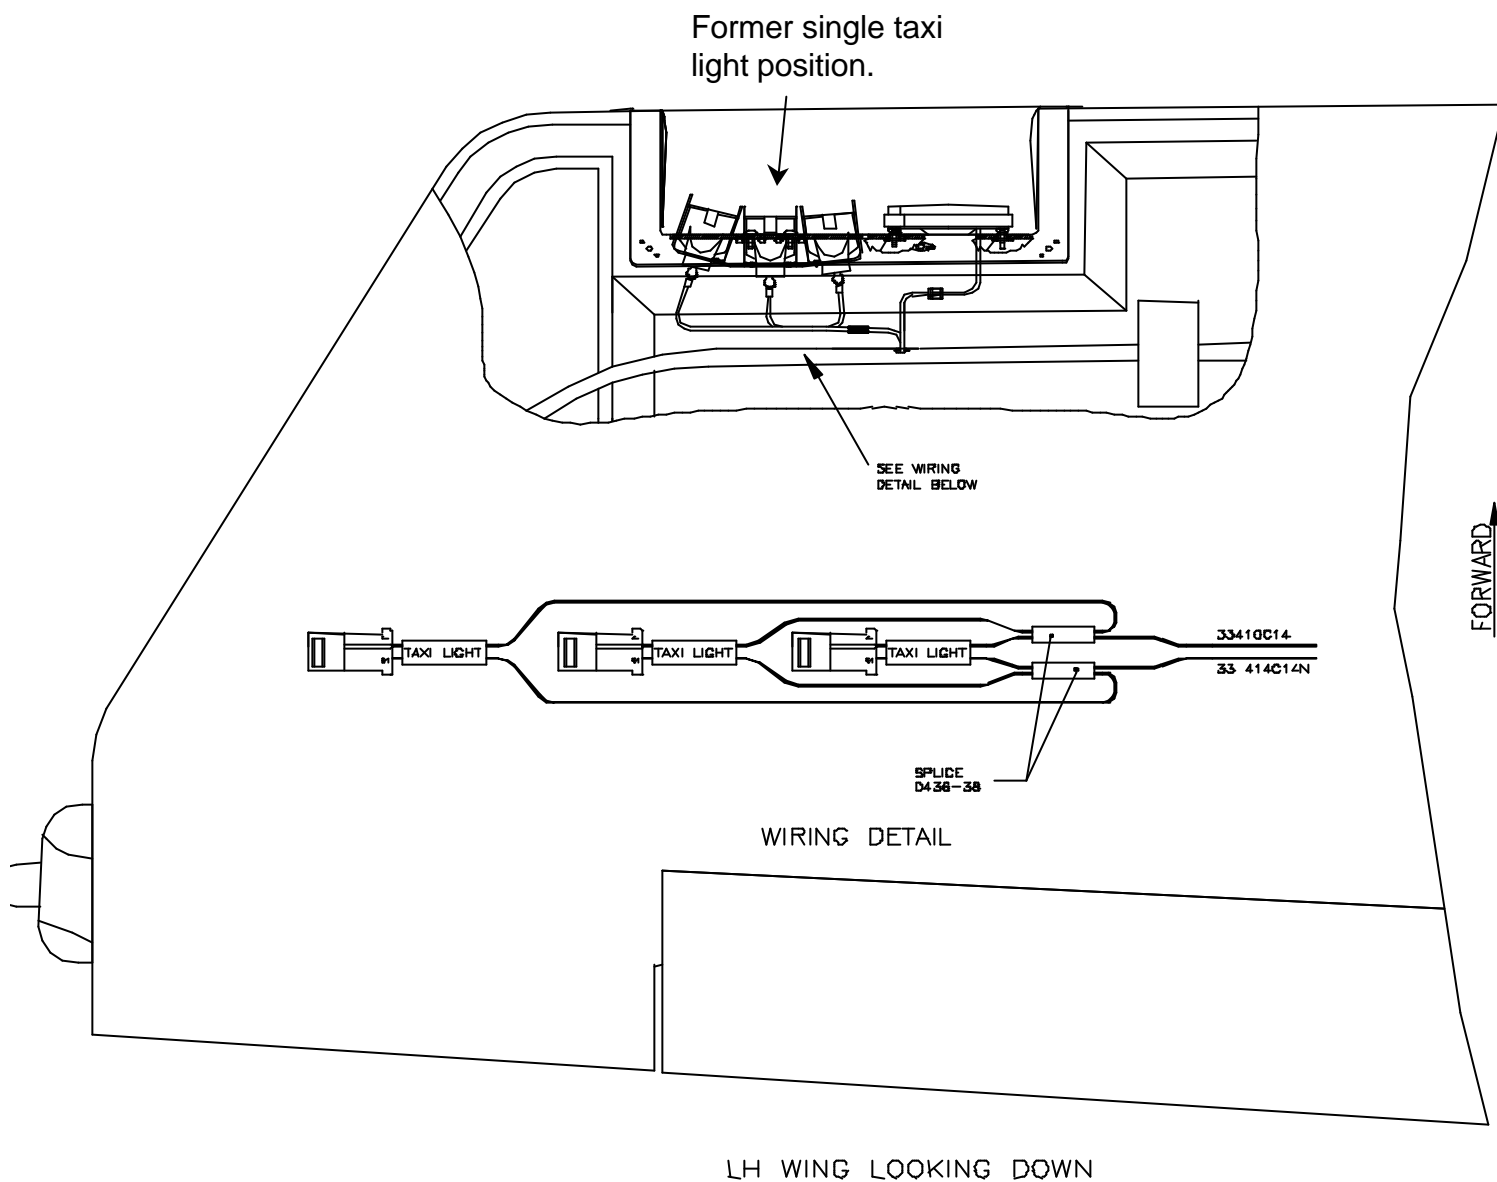

Figure 4
- 10.42 Cut the connector from the taxi light wires as shown in Figure 4. Splice the lamp extension wires to the existing taxi light wiring using raychem AD-1377 tool.